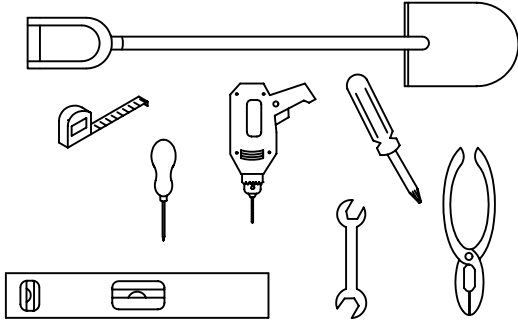

FIG. 1
- 1. WEATHER WARNING ! DO NOT ERECT YOUR BUILDING ON A WINDY DAY. ANY BUILDING LEFT PARTIALLY CONSTRUCTED MAY BE SERIOUSLY DAMAGED (Fig.1).**
- 3. ALL ASSEMBLY OPERATIONS MUST TAKE PLACE ON A COMPLETELY LEVEL SURFACE (Fig. 1)**
(FIG. 1).
- 3. TOUTES LES OPÉRATIONS DE MONTAGE DOIVENT ÊTRE RÉALISÉES SUR UNE SURFACE PLANE (fig 1).**